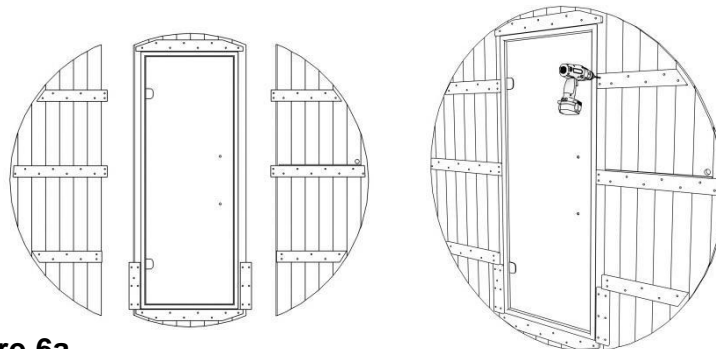

figure 6a
- A. First, locate the three pieces that make up the front wall panel. Use the provided screws to attach the three front wall pieces together. Make sure that three sections are flush at the top and bottom. See figure 6a.